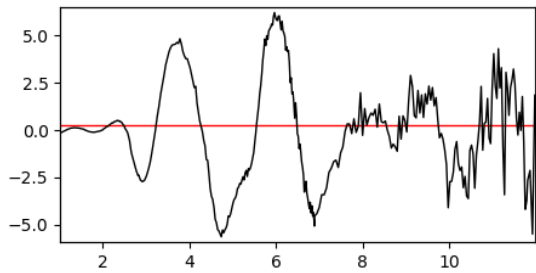

Figure 2-10: The low quality EXAFS data at high k (>12) have been excluded from the plot.
- 12) We are now finally ready to adjust the spline. The first thing we want to do is adjust the region over which we spline the data. By looking in the lower left panel, you can see that the EXAFS signal at $k > 12$ is very noisy and will be difficult to fit, so we should exclude that data before it has a chance to mess things up. In the "EXAFS" section in the right hand panel, decrease the "K Max" value to 12 and decrease "K Min" to 1; the plot of the EXAFS should update in real time to show the low quality data being excluded (Figure 2-10).